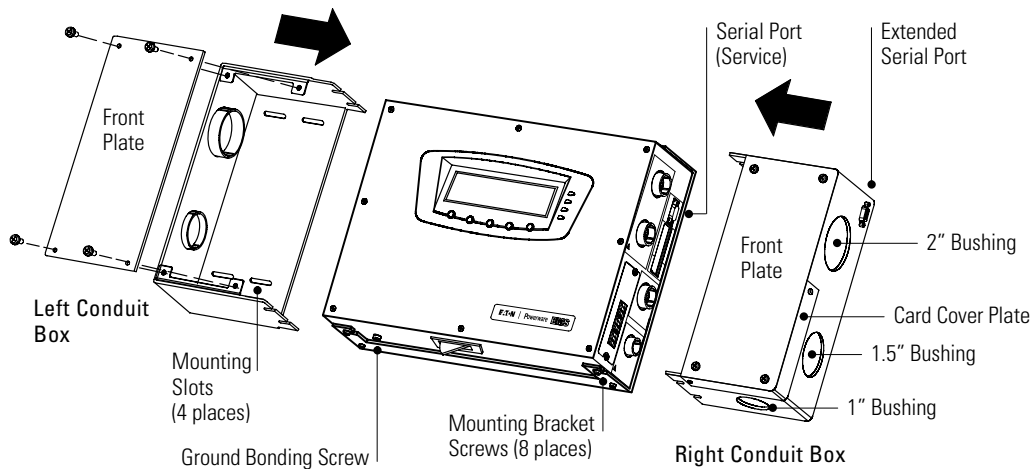

Figure 4. Conduit Box Option
7. Remove the front plate from each conduit box. Retain the plates and screws for later reinstallation. See Figure 4.
Figure 4 shows the location of the two serial ports.
2. **Optional.** Connect the ground cable (not supplied) from the host equipment to the M5 ground bonding screw on the bottom of the electronics module. Figure 4 shows the location of the ground bonding screw.